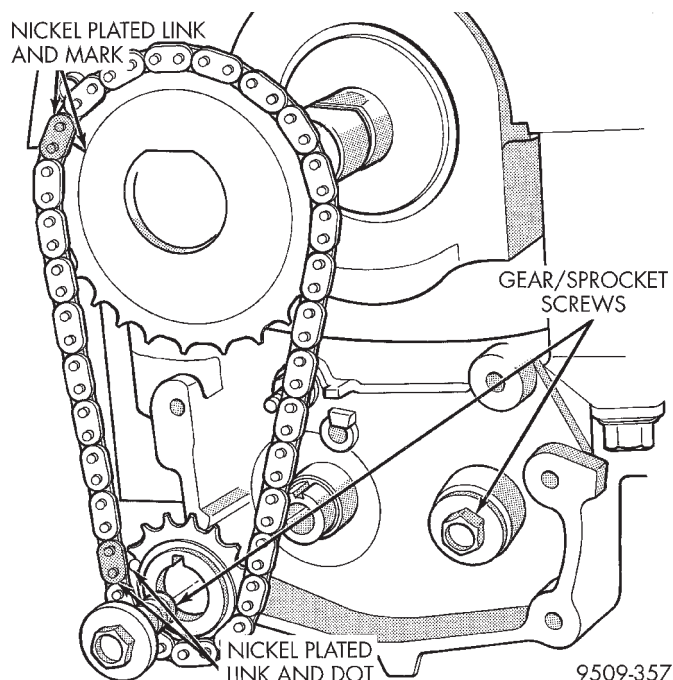

Fig. 35 Drive Chain and Sprockets
- (3) Remove balance shaft gear and chain sprocket retaining screws and crankshaft chain sprocket. Remove chain and sprocket assembly (Fig. 35). Using two wide pry bars, work the sprocket back and forth until it is off the shaft.